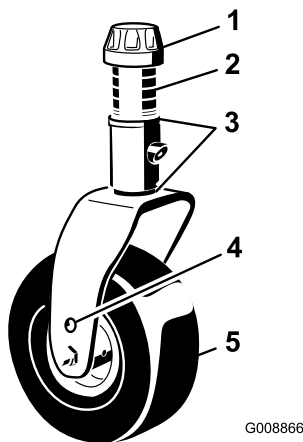

Figure 29
- Remove the tensioning cap from the castor spindle shaft (Figure 29) and slide the castor shaft out of the castor arm. Put 2 shims (1/8 inch [3 mm]) onto the shaft as originally installed. Slide the appropriate number of 1/2 inch spacers onto the shaft to get the desired height-of-cut.